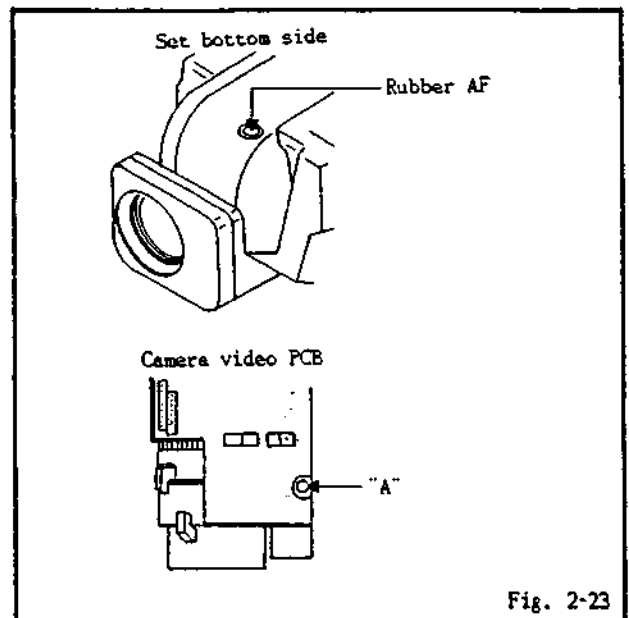

Fig. 2-23
(Refer to Fig. 2-23)
5. When the auto focus is operated at the infinite or finite, confirm that the operation of focus ring will stop at 3 meters on the distant indication. If not, adjust the part "A" so that the distant indication of focus ring will be 3 meters. (Refer to Fig. 2-23)